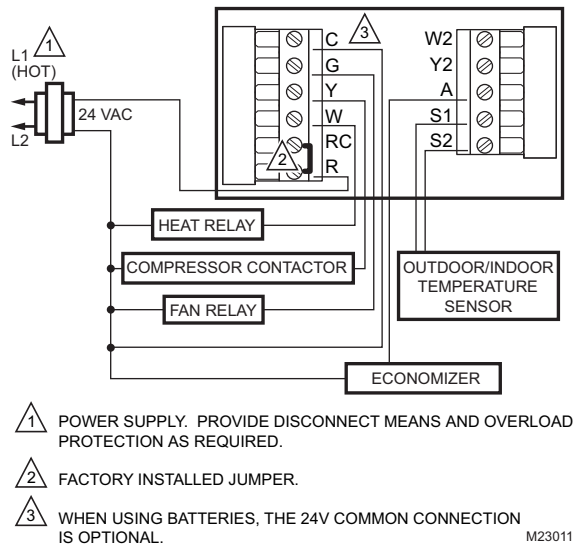

Fig. 12. Typical wiring of single transformer 1H/1C system.
- See Fig. 12 through 21 for wiring diagrams for specific equipment applications.